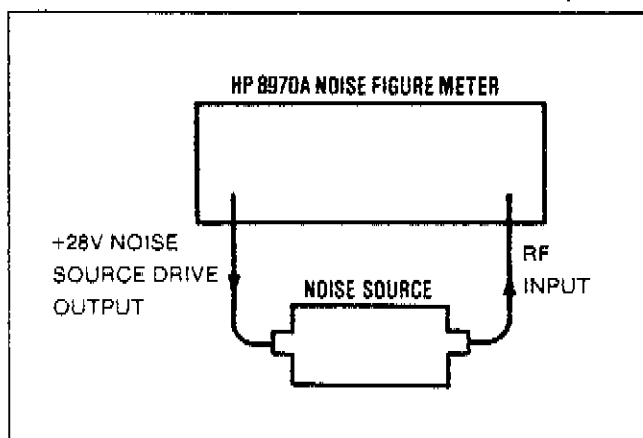

Figure 4. Operator's Check Test Setup 2
2. Connect the equipment as shown in Figure 4.